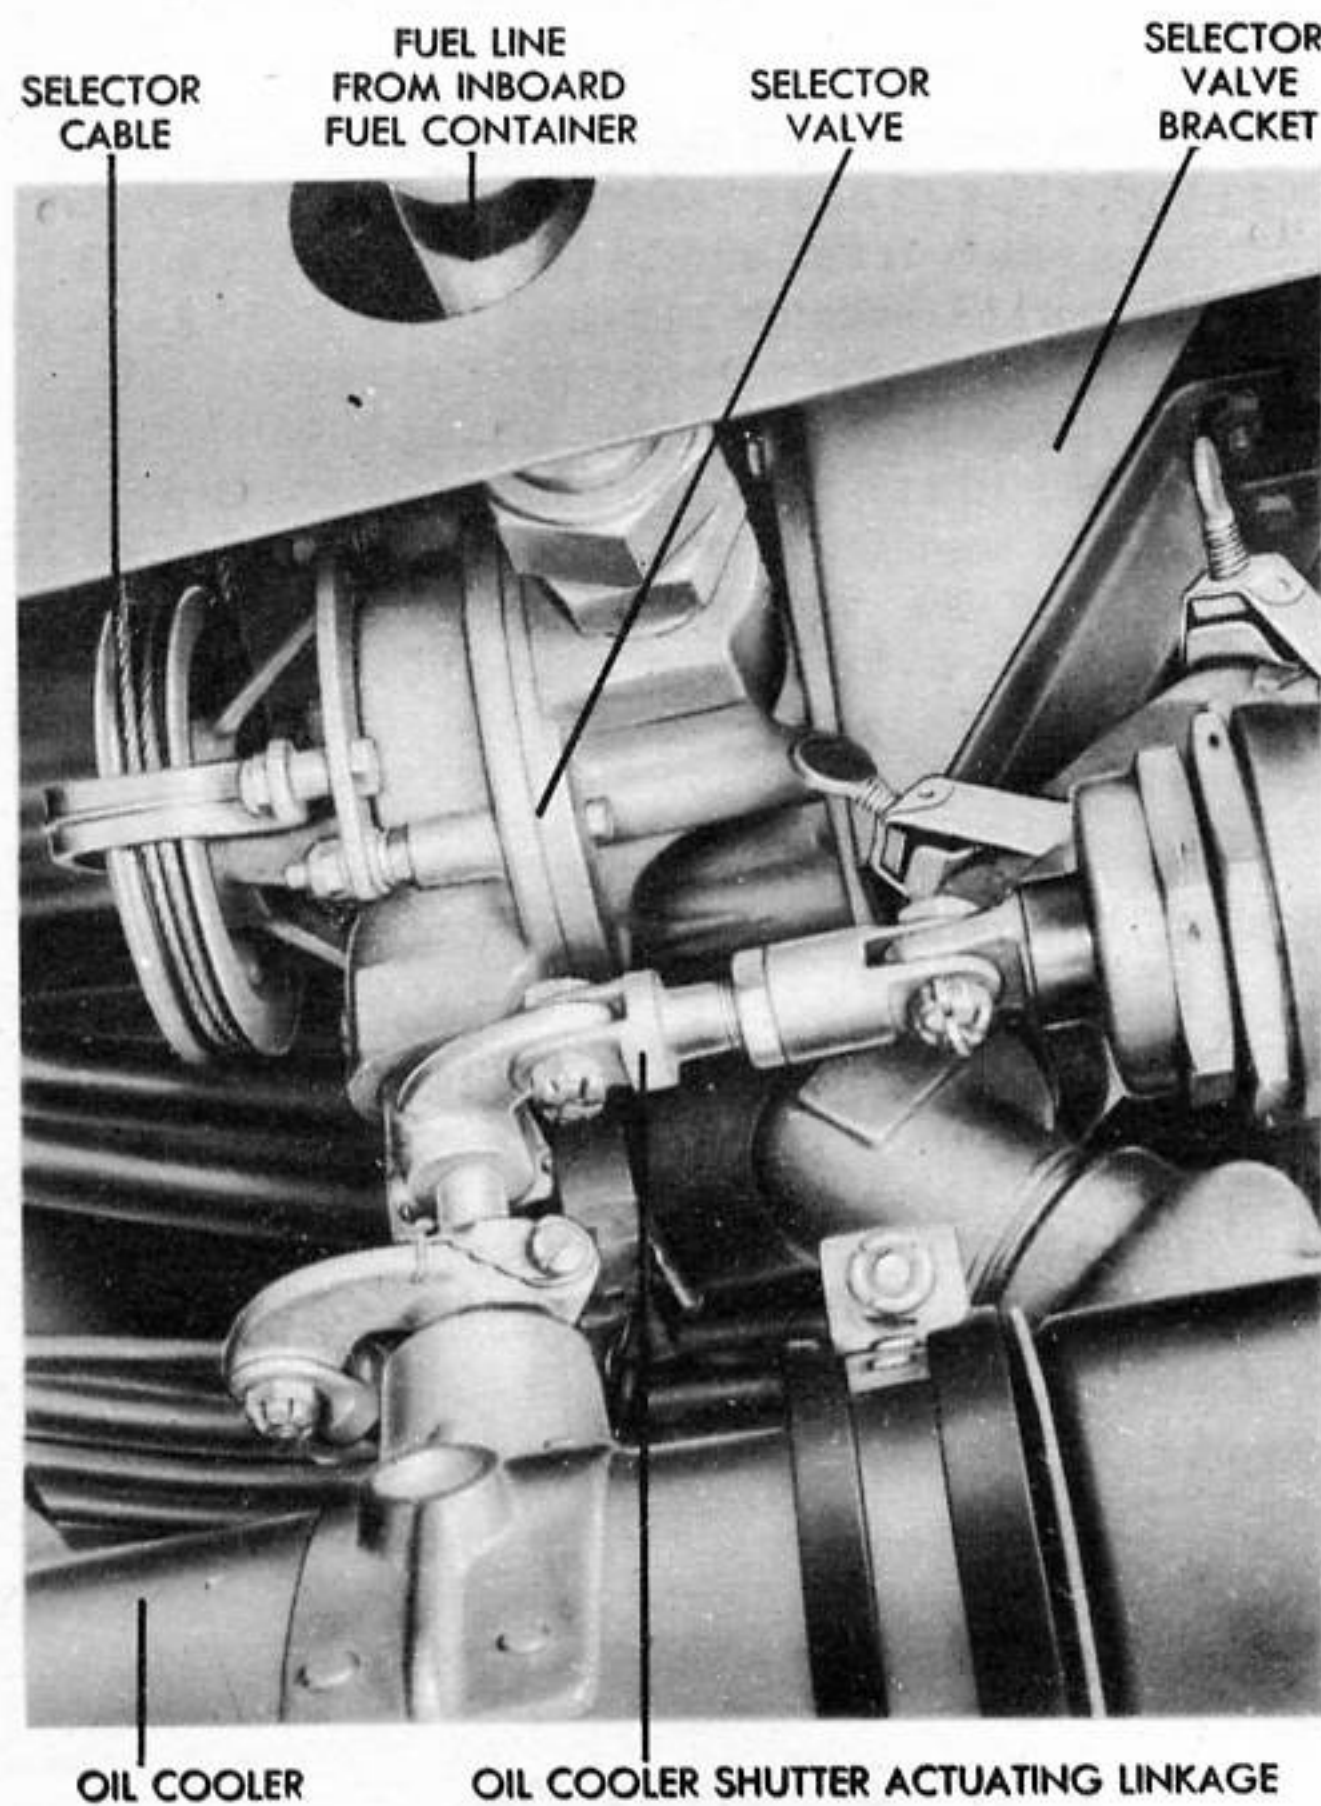

Figure 154 - INSTALLED FUEL TANK SELECTOR VALVE
(12) **REMOVAL OF FUEL TANK SELECTOR VALVE.** (See figure 154.)